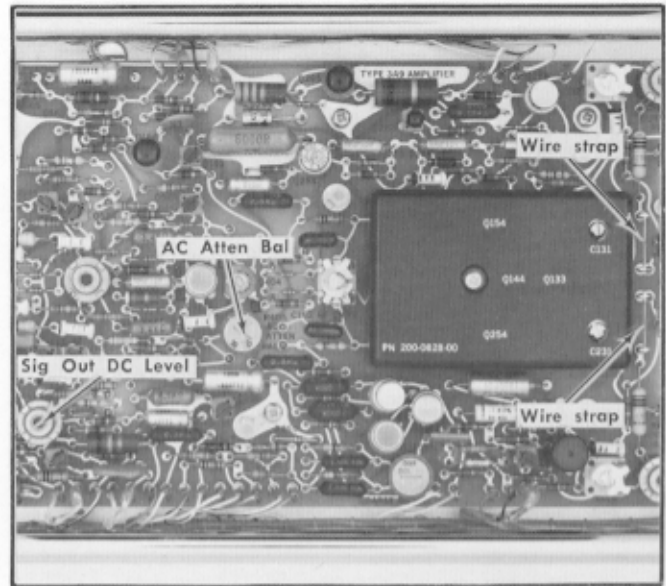

Fig. 2-3. Location of controls on Amplifier circuit board.
3. AC Atten Bal (internal adjustment). When the LOWER -3 dB FREQUENCY switch is used to limit the low frequency response of the Type 3A9 the unit employs AC stabilization. When the LOWER -3 dB FREQUENCY switch is set to any position other than DC to DC OFFSET, the STEP ATTEN DC BAL and DC OFFSET controls become inoperative and VOLTS/DIV balance is controlled with AC Atten Bal, an internal adjustment (see Fig. 2-3). When transferring the Type 3A9 from one oscilloscope to another, it may be necessary to perform a minor readjustment of this control due to normal power supply variations between oscilloscopes.